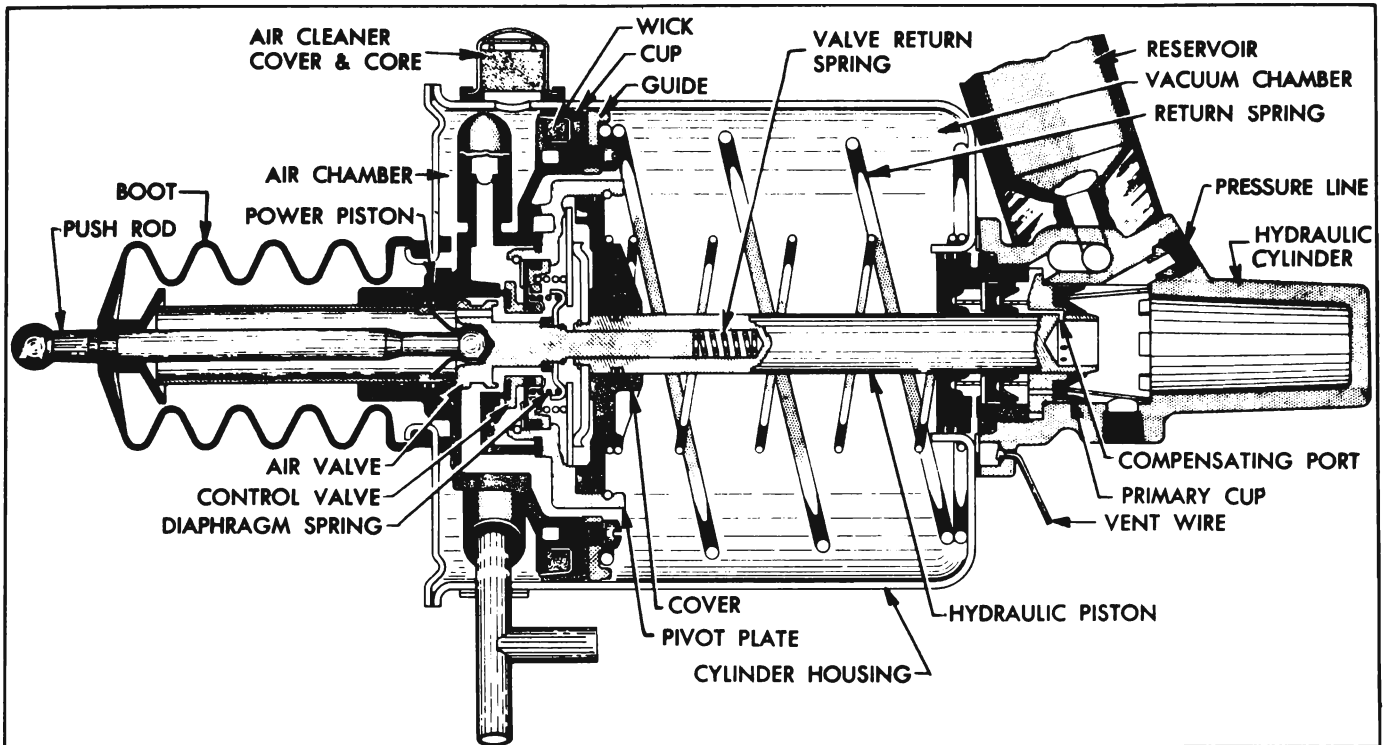

Figure 9-14—Unapplied Stage
As shown in figure 9-14, a cover closes the forward end of the cylinder housing to form a large chamber in which the power piston and related parts operate. The section on the cover side of the piston will be called the *air* chamber since it is open to atmospheric pressure at all times. The section on the opposite side of the piston will be called the *vacuum* chamber since
(1) *Unapplied Stage.* See figure 9-14. The pedal return spring holds the push rod and attached air valve forward so that the air valve is held clear of the floating control valve. At the same time, the valve diaphragm spring holds the floating control valve against its seat on the power piston, thereby closing the passage connected to manifold vacuum.
(5) *Releasing Stage.* When foot pressure on brake pedal is released, the pedal return spring pulls the push rod forward to relieve pressure on the air valve. The valve return spring forces the air valve away from the floating control valve, which is seated against the power piston to close the vacuum passage. Since both sides of the power piston are now open to atmospheric pressure, the piston return springs force the power piston and related parts forward to the unapplied position (fig. 9-14).
NOTE: Refer to figures 9-14 and 9-15 for identification of parts not otherwise illustrated.
NOTE: Refer to figures 9-14 and 9-15 for identification and location of parts not otherwise illustrated.